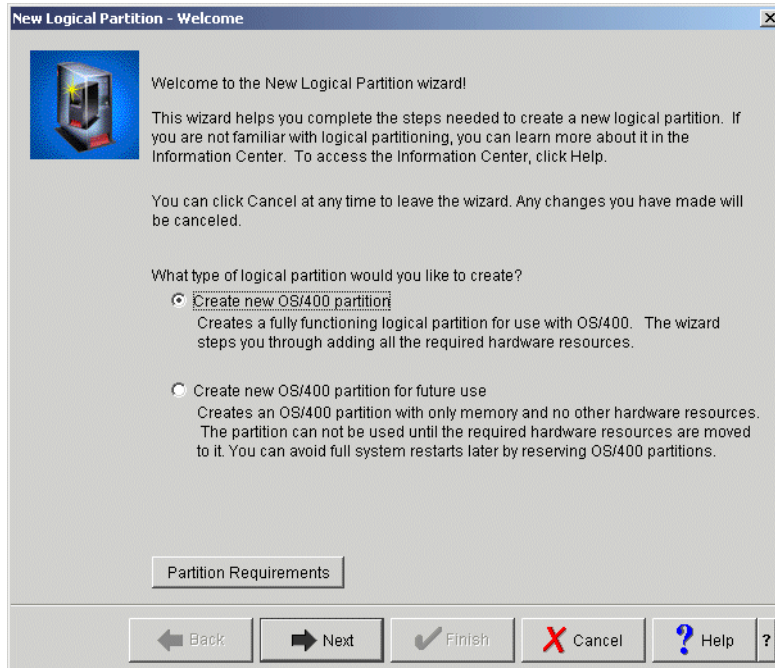

Figure 4-8 Welcome to the New Logical Partition wizard!
- Right-click **Physical System** and select **New Logical Partition**. This starts the wizard. A Welcome window appears as shown in Figure 4-8. Note the Help button in the bottom right-hand corner. This will be available during the entire process. If you need help on any topic, simply click this button. If you want specific help, click the small question mark (?) to the right of it and then click the part for which you want help.
Back on the Welcome display (Figure 4-8), notice that the Create a new OS/400 partition option is already selected. Since this is the task you need to perform, click **Next**.